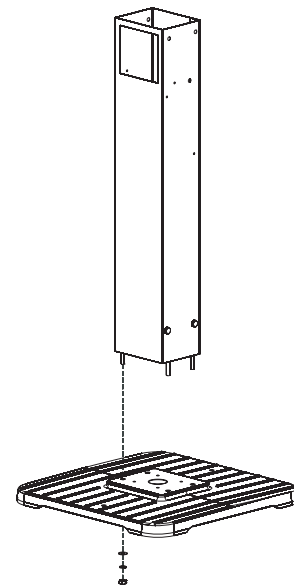

Figure 2
Fasten the bottom of the post to the cast iron patio base (9) using 9/32 ID x 5/8 OD flat washers, 1/4 lock washers, and 1/4-20 hex nuts. FIGURE 2.
Note: Make sure that the large rectangular cut out is facing in the direction that you want your grill to face. FIGURE 2.